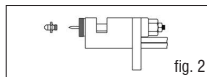

fig. 2
- 6) Unscrew the nozzle (Pos.2) with a 6 mm wrench (fig. 2)